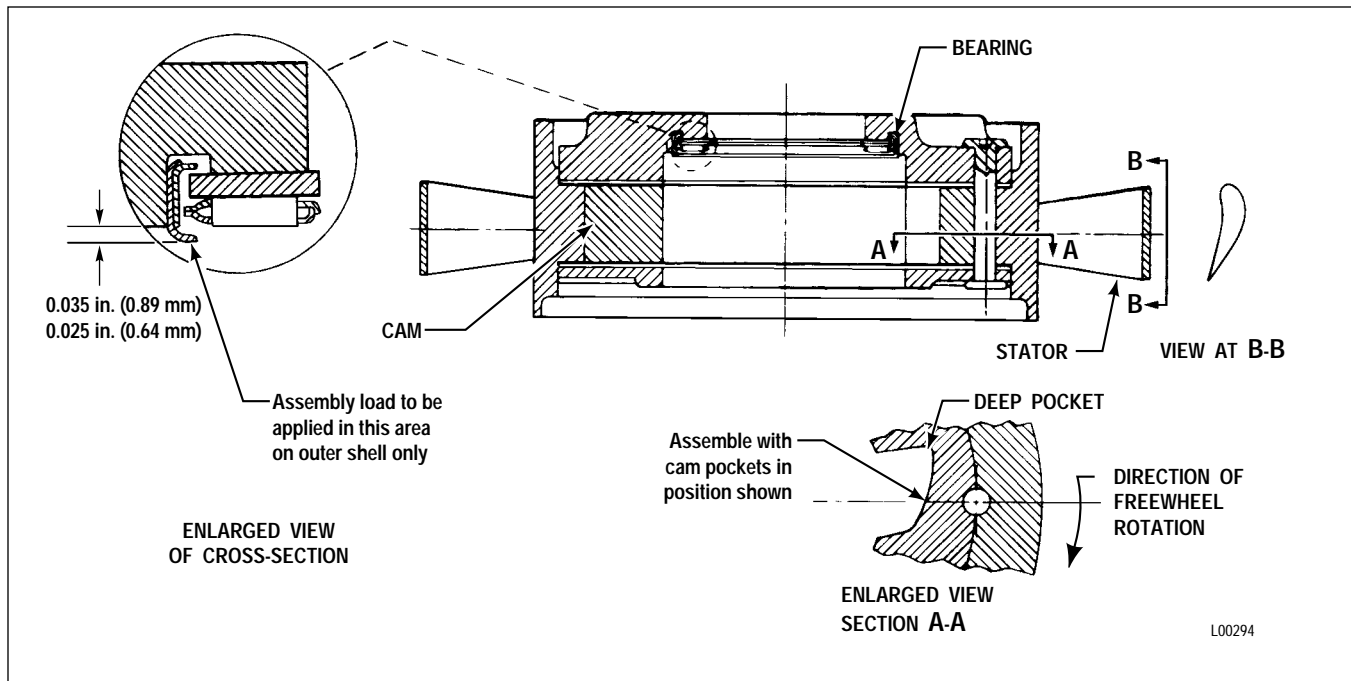

Figure 6-10. Stator Bearing Installation (AT 543)
(3) Drive the bearing assembly to a height of 0.025–0.035 inch (0.64–0.89 mm) above the shoulder in the side plate (Figure 6-10). The installing tool will seat on the stator area surrounding the bearing when the bearing is properly installed.